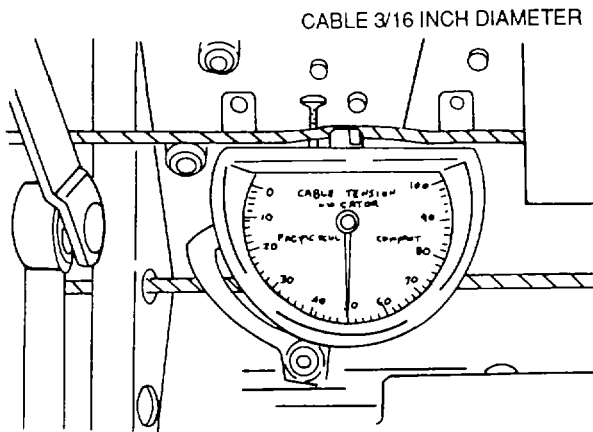

Figure 7-5. Using a Tensiometer
b. Use. The following steps outline the general procedures for measuring cable tension with a tensiometer (see figure 7-5):
(1) With the trigger lowered, place the cable to be tested under the two anvils.
(2) Close the trigger. Movement of the trigger pushes up the riser, which pushes the cable at right angles to the clamping points under the anvils.
(3) Read the force indicated on the dial.